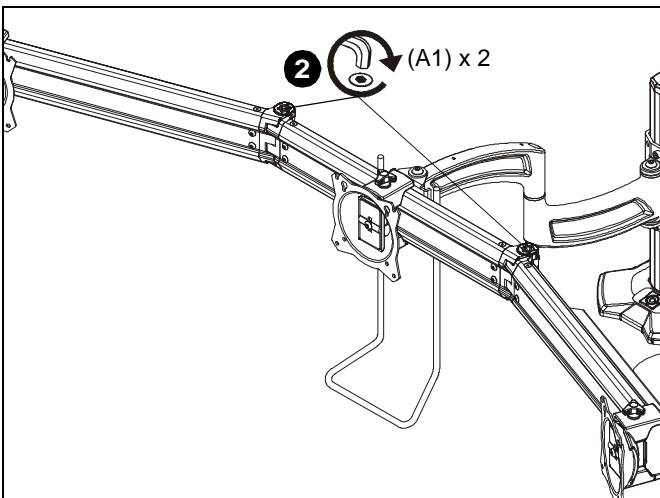

Figure 17
1. Array arms may pivot toward the front of mount up to 20° per arm. (See Figure 17)
2. When arms are at desired pivot position, lock pivot position by tightening 3/8-16 x 2 3/4" socket head carriage screws (A1) using 5/16" hex key (E5). (See Figure 17)